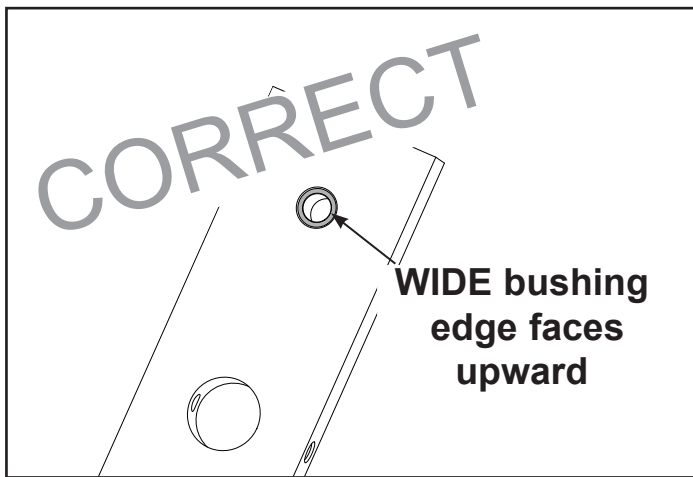

Figure 1A
- M. Carefully align weight plate over guide rods and slowly lower weight plate. **NOTE:** When installing weight plates, position plates so wide edges of bushing face upward and narrow edges of bushing face downward. See Figures 1A and 1B.